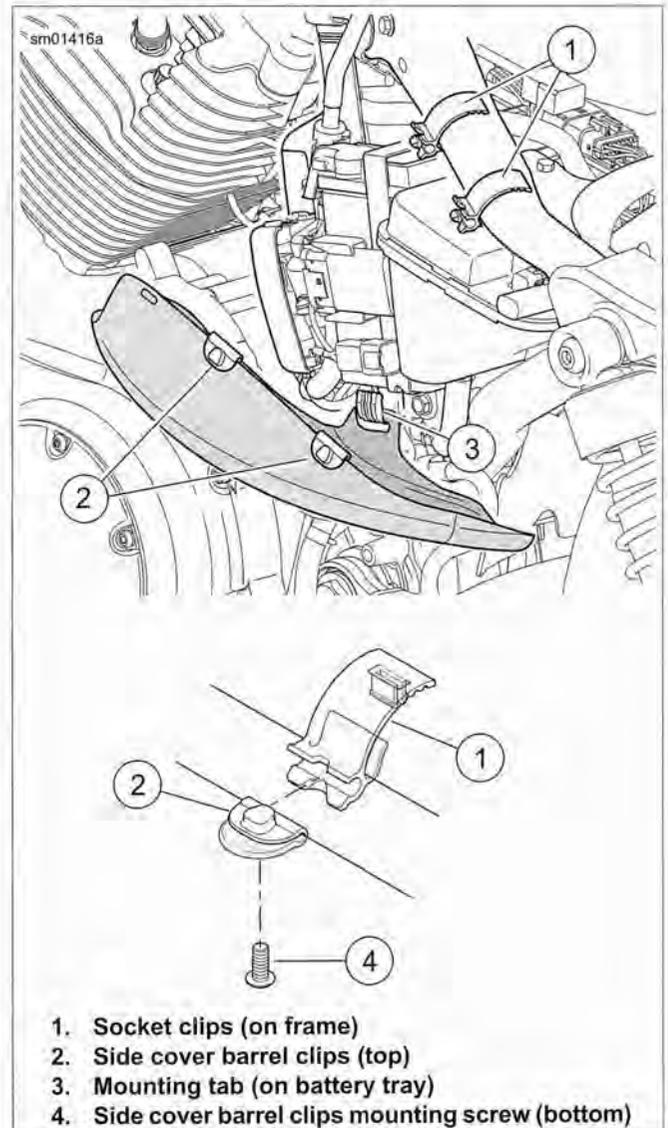
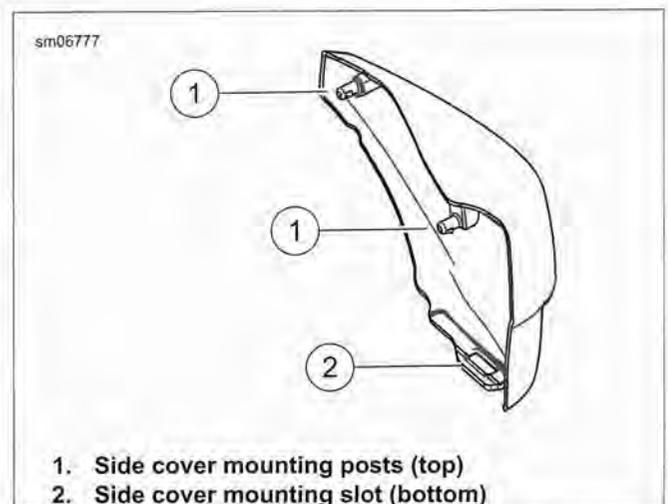

Figure 2-136. Left Side Cover: XL Models
Figure 2-137. Left Side Cover: XR 1200X
See Figure 2-136 or Figure 2-137. The left side cover is secured to the motorcycle by two barrel clips secured to two upper slots that fit into socket clips mounted to the frame (XL models) or two molded-in posts that fit into grommets (XR 1200X). The side cover is also secured to the vehicle by a bottom slot that fits onto a mounting tab on the battery tray.
2. See Figure 2-136 or Figure 2-137. Grasp left side cover at upper corners and pull away from plastic socket clips (XL models) or grommets (XR 1200X) on frame.
- XL models:** see Figure 2-136. Line up barrel clips on side cover with socket clips on motorcycle frame, aligning with front clip first. Press top of side cover into clips until you hear an audible snap.
- XR 1200X:** See Figure 2-137. Line up molded-in posts in top of side cover with mounting grommets on motorcycle frame. Press posts in side cover into grommets until snug.
- See Figure 2-136 or Figure 2-137. Grasp side cover at upper corners and gently pull away from plastic mounting clips (XL models) or grommets (XR 1200X) on frame.